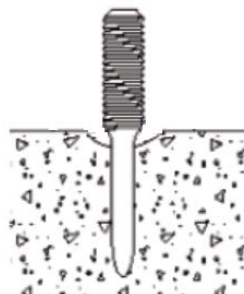

Fig. 6
- It is caused by the fastener's compression of the concrete/masonry and the initial impact. (See Fig. 6 above).